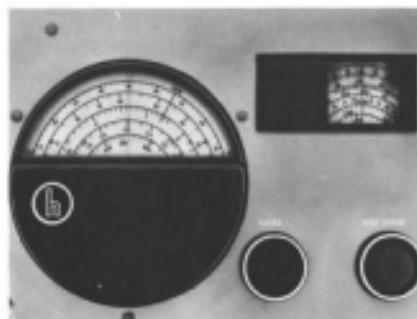

Figure 6.
6. Now tune in stations by tuning with the main control knob. (See Fig. 6) As the station is tuned in, the carrier meter needle (See Fig. 7) will move from the left side of the scale to the right. Carefully tune the receiver by causing the meter needle to move as far to the right as possible. At this point the receiver is properly tuned to the station.
8. The frequency calibration on the main tuning dial for the broadcast band is shown on the scale at the bottom of the dial. (See Fig. 6). This scale as all other scales is calibrated in kilocycles and tunes over the broadcast band from 540 to 1650 kc.